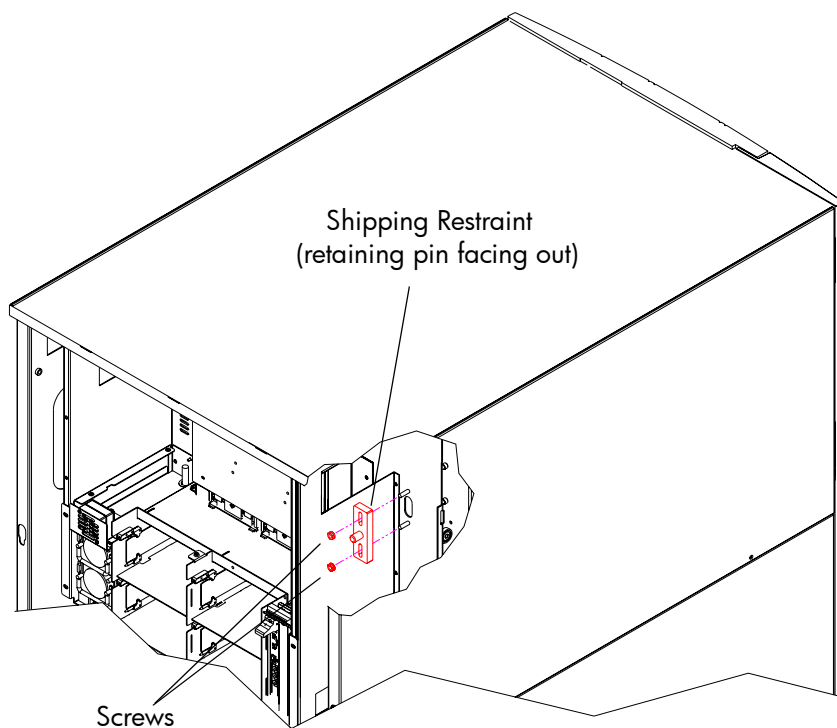

Figure 20: Storing the counter weight shipping restraint
14. Reverse the counterweight shipping restraint so that the pin is facing out. Reinstall it onto the back wall of the library using the two nuts removed in step 13 (see Figure 20).